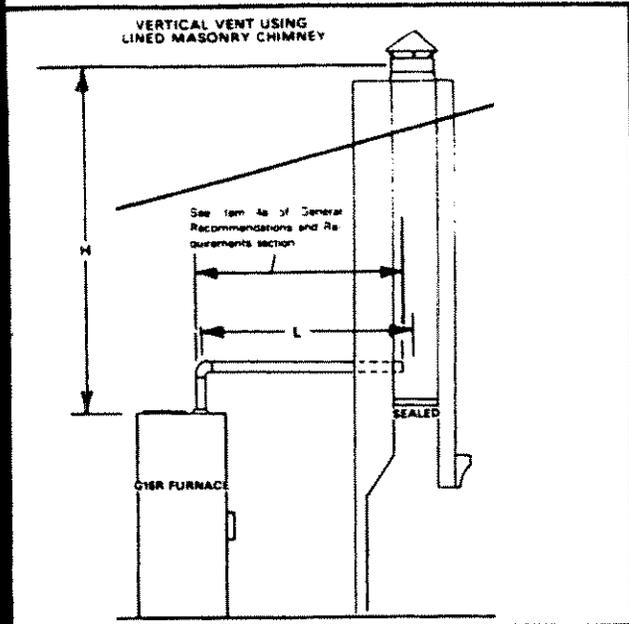

FIGURE 7
- d - Masonry chimneys serving fireplaces cannot be used for venting purposes unless the fireplace opening is permanently sealed (See figure 7).